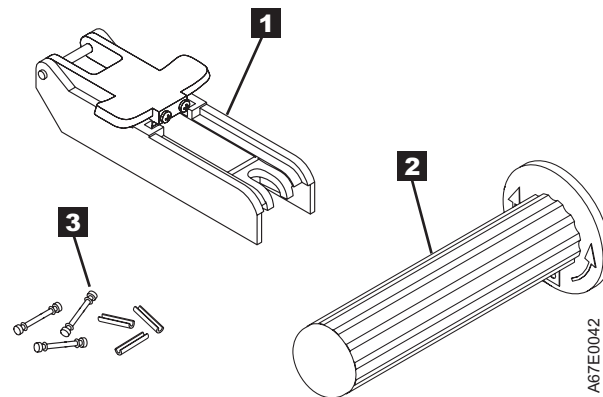

Figure 4-11. Leader Pin Reattachment Kit
- **Leader pin attach tool** (see **1** in Figure 4-11 on page 4-13). A plastic brace that holds the cartridge door open.
- **Cartridge manual rewind tool** (see **2** in Figure 4-11 on page 4-13). A device that fits into the cartridge's hub and lets you wind the tape into and out of the cartridge.
- **Pin supplies** (see **3** in Figure 4-11 on page 4-13). Leader pins and C-clips.